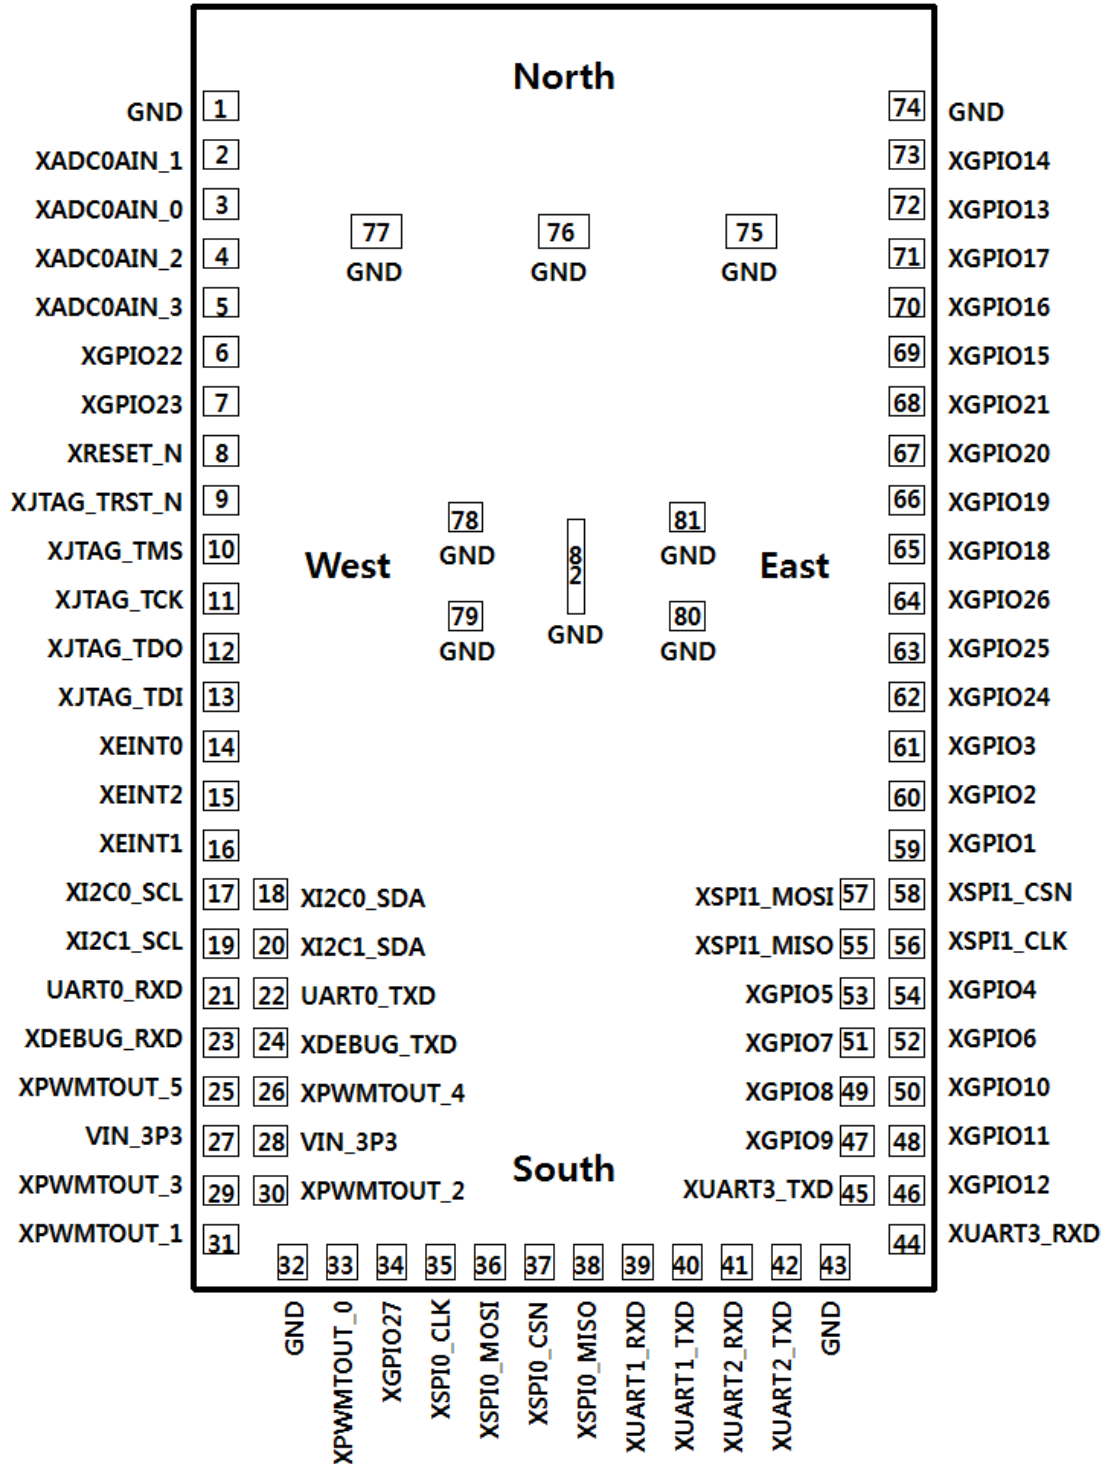

Figure 4. ARTIK 055s Module Edge Pinout (Top View)
- **Pad Number** defines the signal pad on the edge of the module. Refer to Figure 4 for pad/signal physical layout.